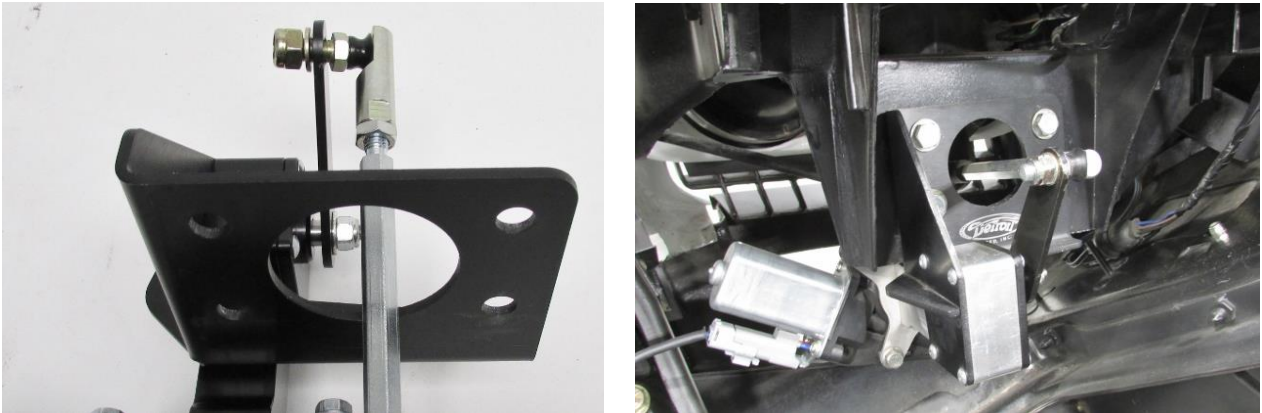

Figure 12 - Install Pitman Arm Linkage
12. Install the pitman arm linkage to the pitman arm. Remove the 5/16"-24 Nylock nut and washer on the ball joint side of the linkage. Adjust the clevis end of the linkage so the ball joint stud lines up with the hole in the pitman arm. Install this end of the linkage into the pitman arm on the actuator and install the washer followed by the 5/16"-24 Nylock nut. Hold the hex nut on the ball joint with a 7/16" wrench and tighten the Nylock Nut with a 1/2" socket. Torque the 5/16"-24 Nylock nut to 20 ft.-lbs. (Figure 12).